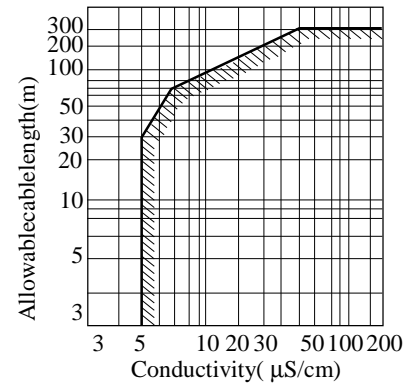

Figure 8. Electrical Conductivity and Cable Length
- (1) Explosion proof type flow meters are not provided cable glands. Refer to the part Cable connection port at detector and converter.
- (2) Connect the grounding wire (IV wire 5.5mm² or more) to a good earth ground (100 Ω or less ground resistance). Make the wire as short as possible. Do not use a common ground shared with other equipment where earth current may flow. An independent earth ground is recommended.
- (3) The allowable cable lengths between the detector and converter for the separate type flow meter depend on the electrical conductivity of the object fluid. See Figure 8.
- (4) DO1, DO2, and DI use the same common terminal (COM). This COM cannot connect to other equipments which have their own ground terminal. (Power supply for connecting to DI or DO, etc...) Need to wire separately.